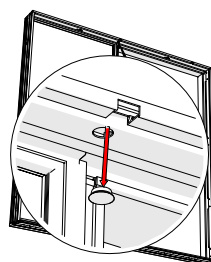

Figure 9: Remove cover cap
- D: Removing the cover cap (figure 9)